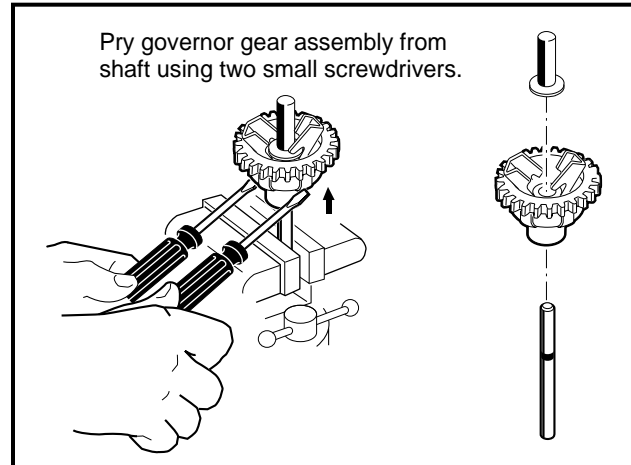

Figure 16-44 Pry Gear from Shaft
1. Secure the governor gear assembly in a vise as shown. Wrap shaft in a cloth to prevent damage (**Figure 16-44, Page 16-19**).
2. Use two small screwdrivers to pry the gear and flyweight off the shaft as shown (**Figure 16-44, Page 16-19**).